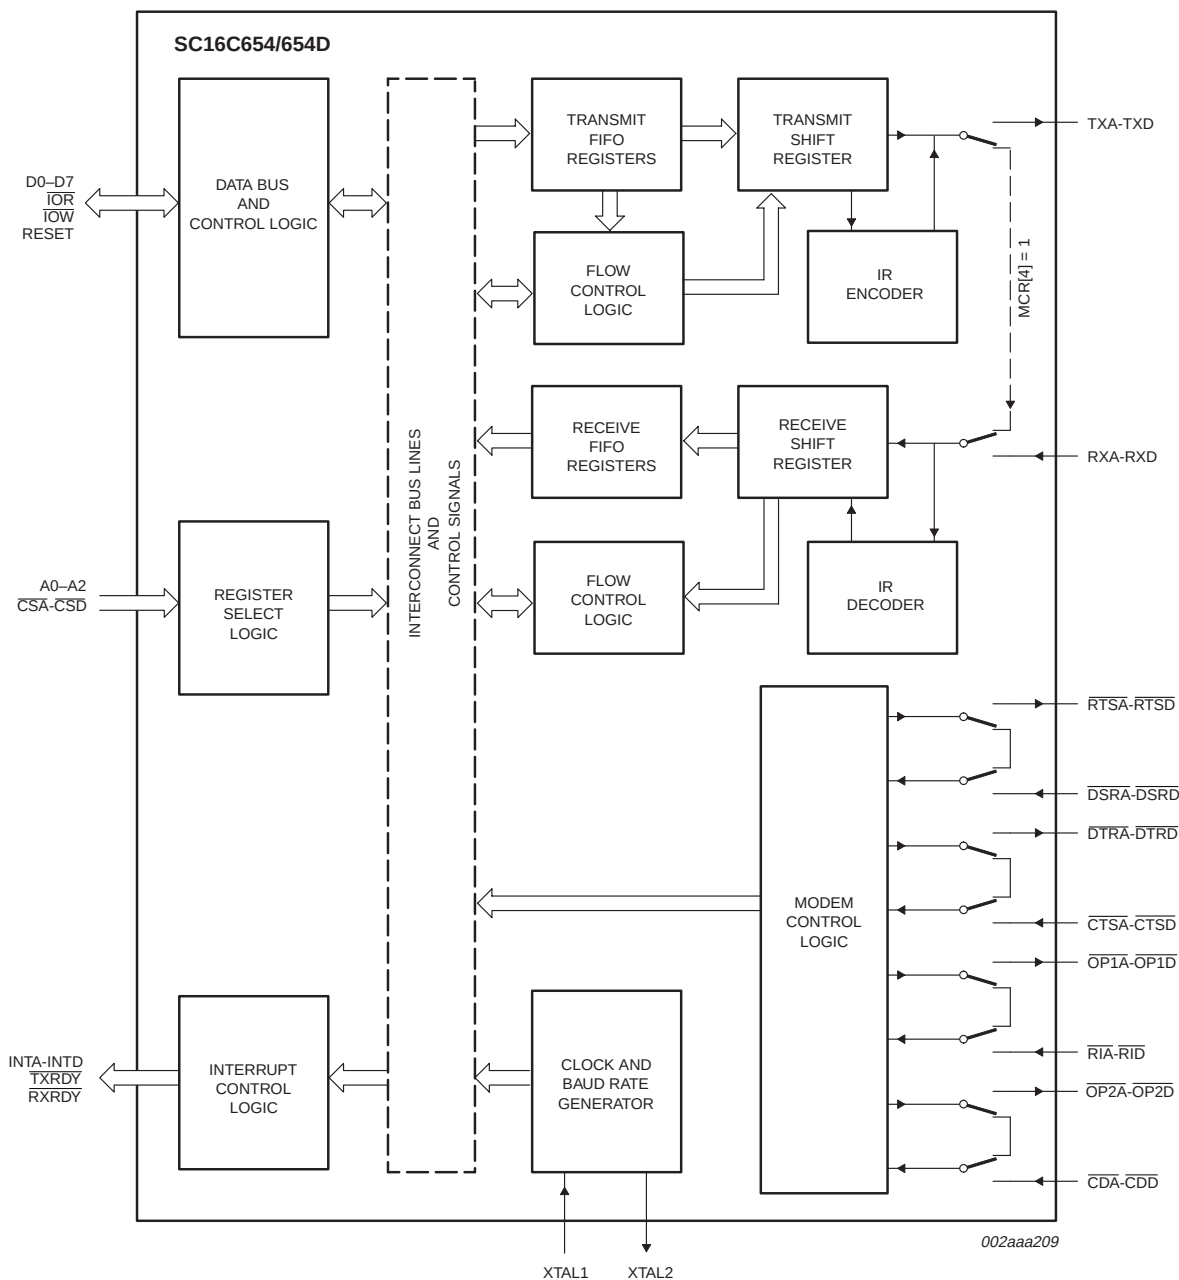

Fig 8. Internal loop-back mode diagram.
The internal loop-back capability allows on-board diagnostics. In the loop-back mode, the normal modem interface pins are disconnected and reconfigured for loop-back internally. MCR[0-3] register bits are used for controlling loop-back diagnostic testing. In the loop-back mode, OP1 and OP2 in the MCR register (bits 2-3) control the modem  $\overline{\text{RI}}$  and  $\overline{\text{CD}}$  inputs, respectively. MCR signals  $\overline{\text{DTR}}$  and  $\overline{\text{RTS}}$  (bits 0-1) are used to control the modem  $\overline{\text{CTS}}$  and  $\overline{\text{DSR}}$  inputs, respectively. The transmitter output (TX) and the receiver input (RX) are disconnected from their associated interface pins, and instead are connected together internally (see Figure 8). The  $\overline{\text{CTS}}$ ,  $\overline{\text{DSR}}$ ,  $\overline{\text{CD}}$ , and  $\overline{\text{RI}}$  are disconnected from their normal modem control input pins, and instead are connected internally to  $\overline{\text{DTR}}$ ,  $\overline{\text{RTS}}$ ,  $\overline{\text{OP1}}$  and  $\overline{\text{OP2}}$ . Loop-back test data is entered into the transmit holding register via the user data bus interface, D0-D7. The transmit UART serializes the data and passes the serial data to the receive UART via the internal loop-back connection. The receive UART converts the serial data back into parallel data that is then made available at the user data interface D0-D7. The user optionally compares the received data to the initial transmitted data for verifying error-free operation of the UART TX/RX circuits.